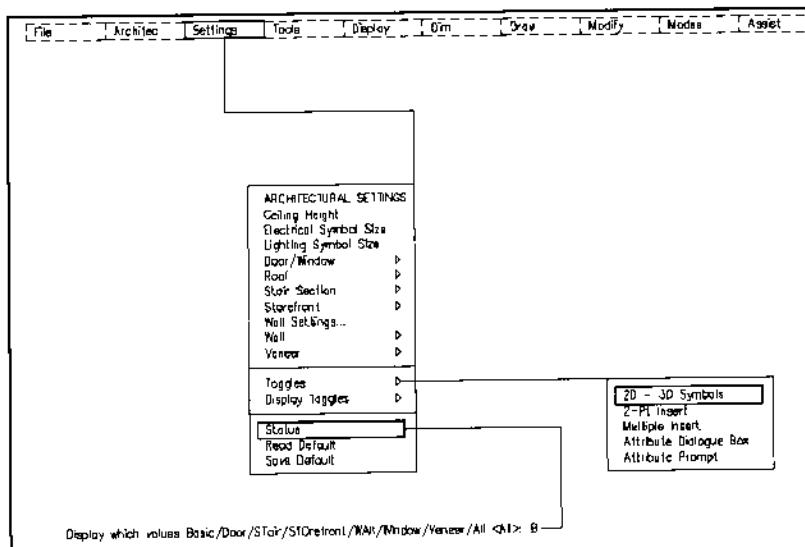

Figure 3.
2. Before proceeding with door and window insertions, verify that the 2D-3D Symbol toggle from the Basic Status display screen is on, so that you can insert all doors as 3D symbols (shown in Figure 3).
3. Select Status or Toggles under the Settings pull-down menu to toggle 3D on as shown in Figure 3.